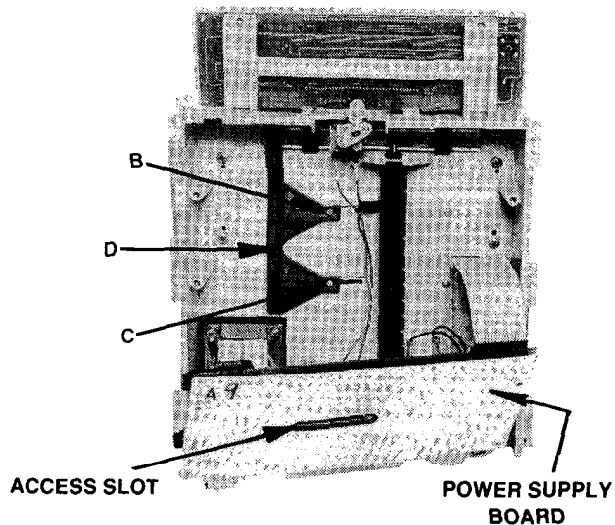

Figure 3
- If the cards fit, go to step 5. Otherwise, proceed as follows (Figure 3):
**Note:** Although Figure 3 shows the power supply board partly removed, this need not be done. Screws B and C are accessible thru the slot in the power supply board and from under the board.